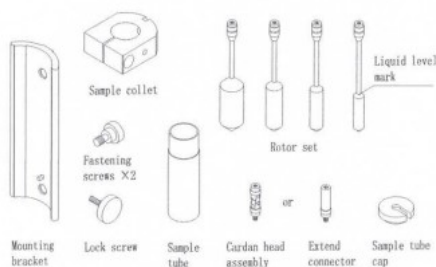

Fig. 8
1. As shown in Fig. 8, a complete set of rotors includes the following components.